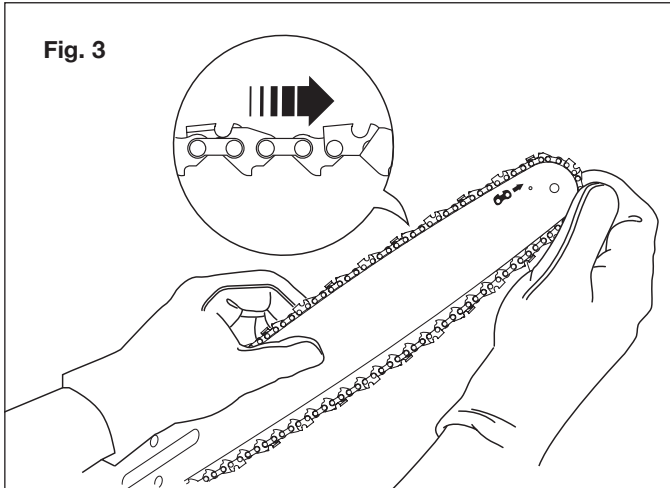

Fig. 3
3. Lay out the new saw chain in a loop and straighten any kinks. **THE SHARP SIDE OF THE TEETH MUST FACE AWAY FROM YOU AND IN THE DIRECTION OF THE CHAIN ROTATION INDICATED ON THE GUIDE BAR.** If the teeth face backwards, turn the loop over (Fig. 3).